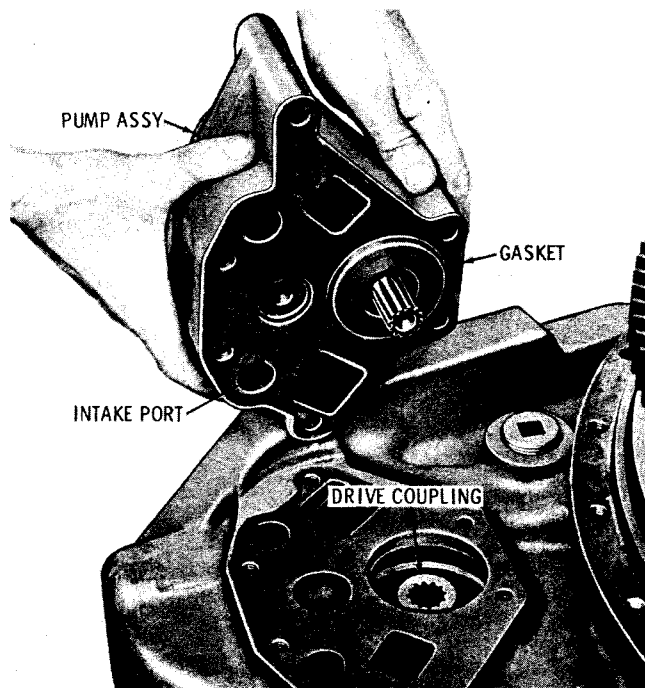

Fig. 7-53. Installing input pressure and scavenge pump assembly
(1) Install cone-shaped scavenge pump suction screen 21 (A, foldout 6), smaller, closed end first, into the intake port of the input pressure and scavenge pump assembly (fig. 7-53).
(2) Install the gasket onto the input pressure and scavenge pump assembly (fig. 7-53).
(3) Lubricate the internal and external splines of the pump drive coupling with a good quality, antifret grease (such as Molykote G, Lubriplate, or equivalent). Install the coupling (fig. 7-53). Install the pump, with gasket and screen. Retain the pump with six 3/8-16 x 4 1/2-inch bolts. Tighten the bolts to 26 to 32 pound feet torque.